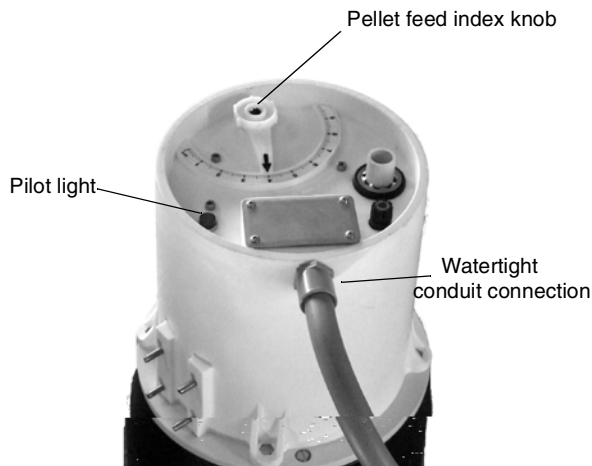
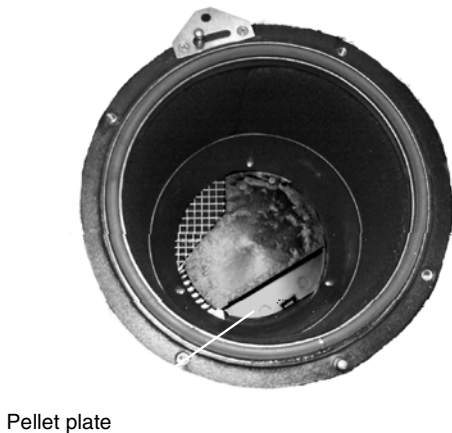

Figure 12
Figure 13
Before adding pellets, run water until the well pump runs. The chlorinator pilot light should be on (Figure 12) and the pellet plate (Figure 13) should rotate with a stop and start motion while the water pump runs.
D. Use the pellet feed index knob (Figure 12) to make adjustments for individual wells. Start system at setting 5. Once each day, check water for proper chlorine residual with the test kit provided. To decrease chlorine content, pull out and move index knob to a lower setting. To increase chlorine content, move index knob to a higher setting.